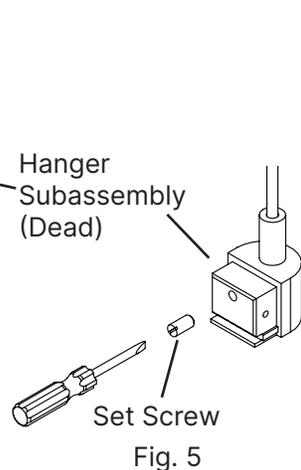

Fig. 5
4. Adjust the leveling of the **Luminaire** by loosening the **Set Screw** on the **Dead Hanger Subassembly** and lengthening or Shortening the cord (Fig. 5).